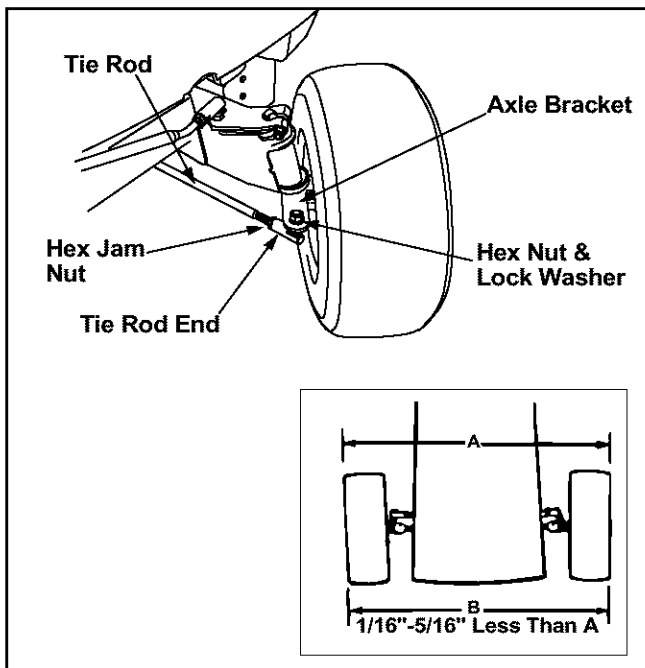

Figure 19
- Remove the hex nut and the lock washer, and drop the end of the tie rod from the axle bracket. See Figure 19.
- Adjust the tie rod assembly for correct toe-in. Dimension B should be approximately 1/16"-5/16" less than Dimension A. See Figure 19.